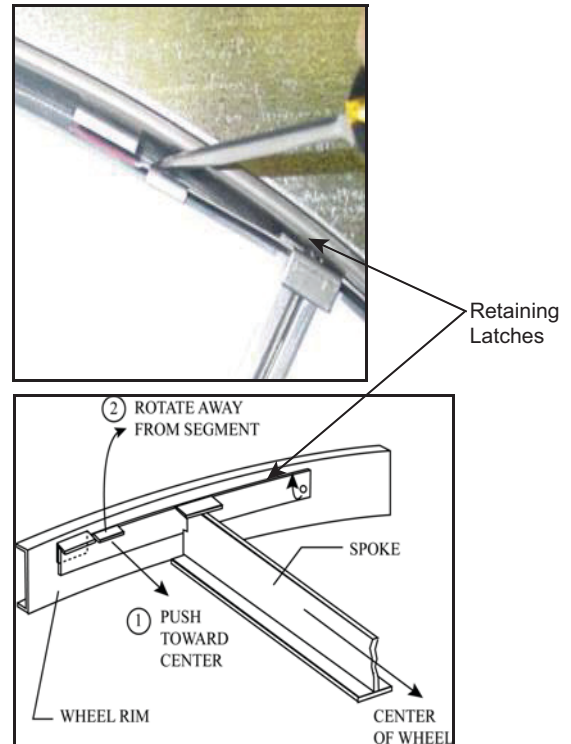

Fig. 37 – Release Retaining Latches
4. Using a flathead screwdriver, unlock and open the two segment retaining latches, at the outer corners of the segment to be removed. See Fig. 37 for example of releasing retaining latches.
2. Begin by positioning one empty segment bay at the top of the wheel and opening the two retaining latches. See Fig. 37 to release retaining latches.
4. Close the retaining latches on outer corners of segment to secure the segment inside the wheel. See Fig. 37 for example of closing the retaining latches.